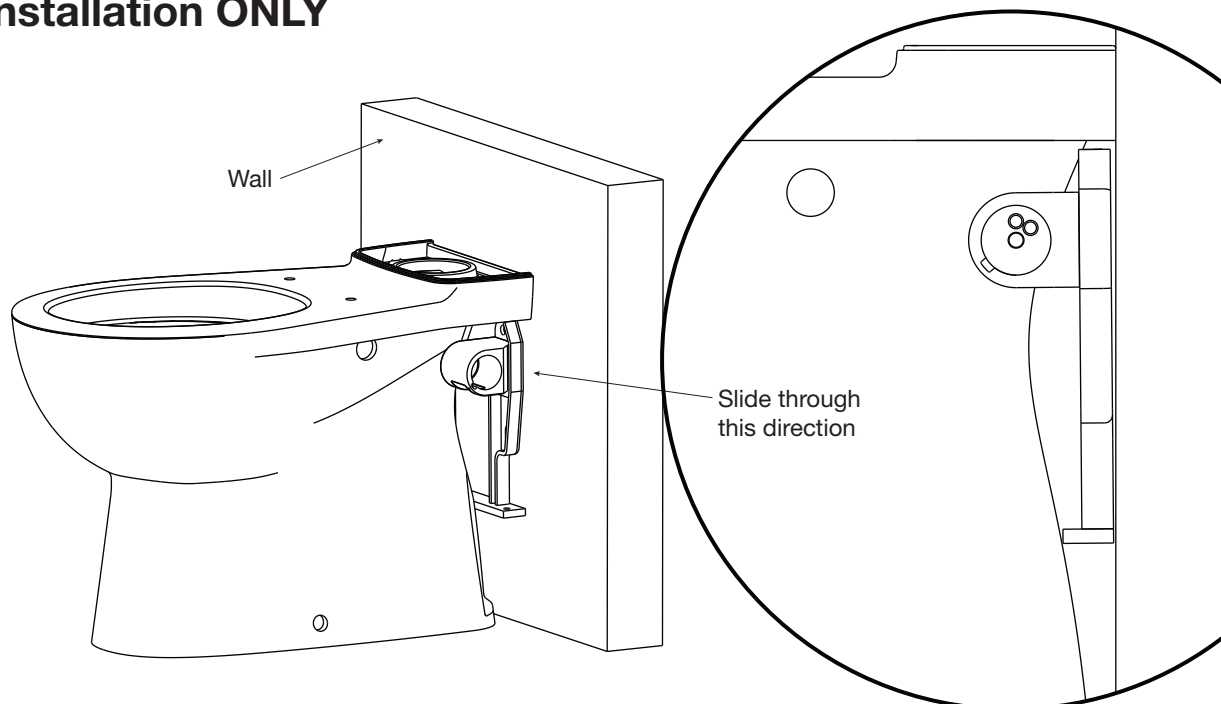

Fig. 4
5. As shown above in **Fig. 4**, pass bracket between wall and pan. Be careful to avoid scratching of tiles and pan. Once bracket is safely through re-attach hinge block with five (5) M6 screws, ensure screws are fully tightened.